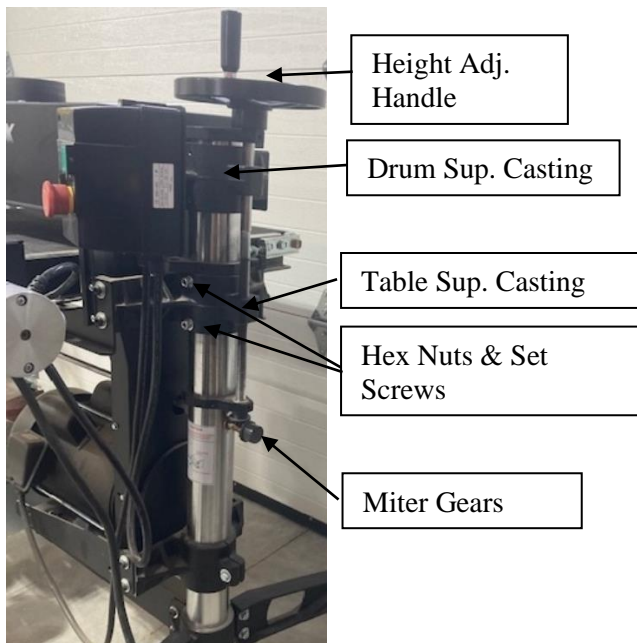

Fig. 17. Table support casting set screws.
When troubleshooting the height adjustment mechanism, first check the conveyor table for level. Then test the height adjustment mechanism (See Fig. 17). If it does not operate
1. Loosen the set screws located at the front of the table support castings (Fig. 17).
3. If the height adjustment feels stiff, check for misalignment of adjusting screw supports and the drum support castings which could cause binding on the adjusting screw rods (Fig. 17). These castings can be adjusted by loosening the set screws which secure them to the column tubes. Realign the adjusting screw supports by loosening the two set screws that hold them to the column tubes and rotate to the proper position.
left (outboard) drum supporting casting (Fig. 17) must both be set at the proper height along the column tubes so the height adjusting screws provide for proper miter gear alignment. Before adjusting these parts, tighten one set screw in the table support castings (Fig. 17) to hold the height adjusting screw in position during adjustment.
Also check to see that the column tubes are centered inside the bore of the table support castings (Fig. 17). If not, loosen the casting bolts and tighten the set screws at the front of table support casting to center the tube. Retighten the bolts and loosen the set screws.
distance should be $1/32$ " or less. If there is excessive space, move the adjusting screw support to the proper distance above the miter gear and retighten. Loosen the set screws in the table support castings (Fig. 17) and test for smooth operation.